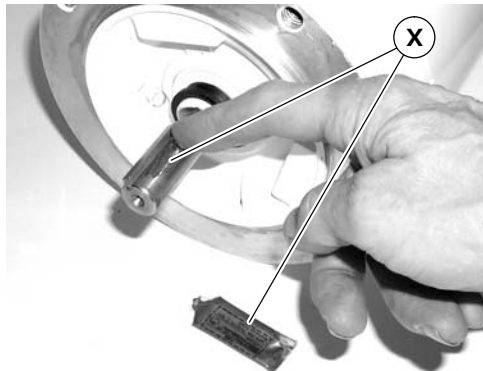

Figure 18
2. Apply anti-seize compound (X of Figure 18) to motor shaft.